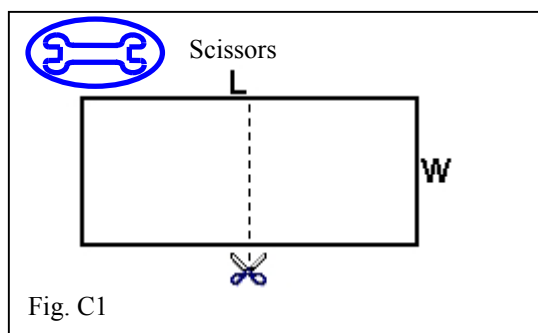

Fig. C1
1. Cut five (5) pieces of foam tape in half to give ten (10) half-pieces for use in Steps C. 2. ii., C. 3. ii., C. 6., C. 7., C. 11., & C. 11. ii. (Fig. C1)